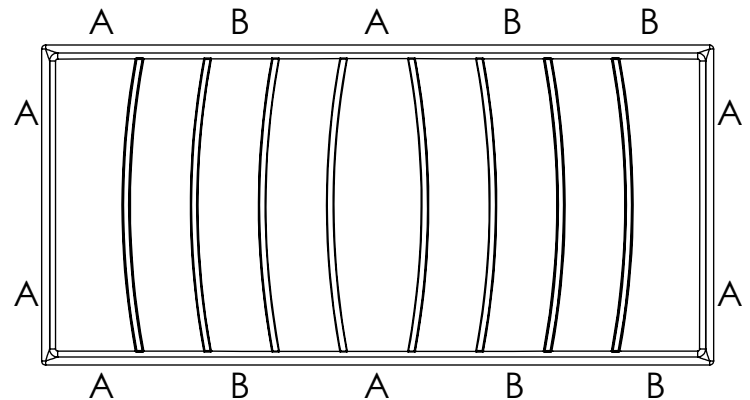

Fig. 1
1. Glide assemblies **without** Restraint Rings are to be located at positions indicated by "A" (**Fig. 1**). Restraint Ring/Glide assemblies should be located at "B" positions.